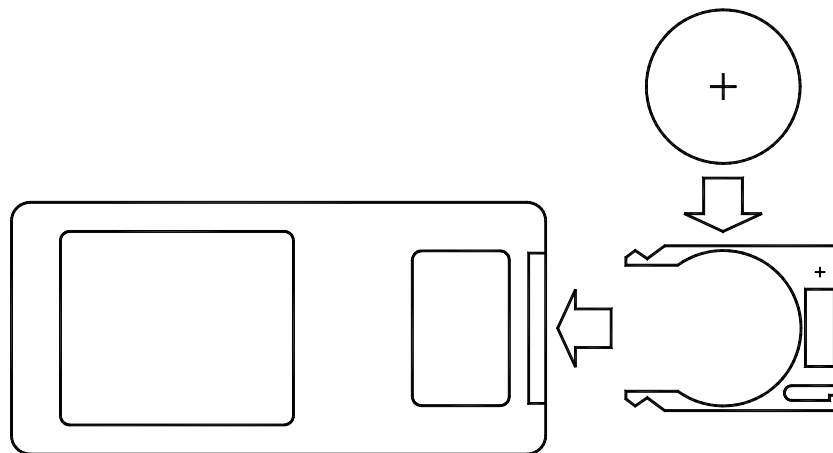

Figure 3: Infrared Remote Control Assembly
10. Assemble the infrared remote control as shown in Figure 3. To manually select the desired port with the infrared remote control, press the numbered buttons. To switch back to automatic mode, press the **Auto Mode** button.